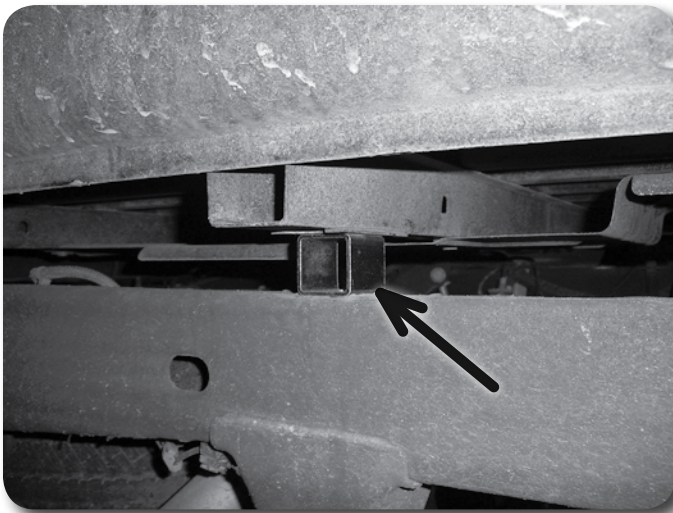

Figure 15
28. Remove the rubber pads from the frame where the bed's cross members originally rested (four locations on long beds, two on short beds). Place the metal body spacers at these locations. **Figure 15** Attach the spacers to the frame with 5/16" x 3/4" self-tapping bolts. Tighten hardware to 10 ft-lbs.